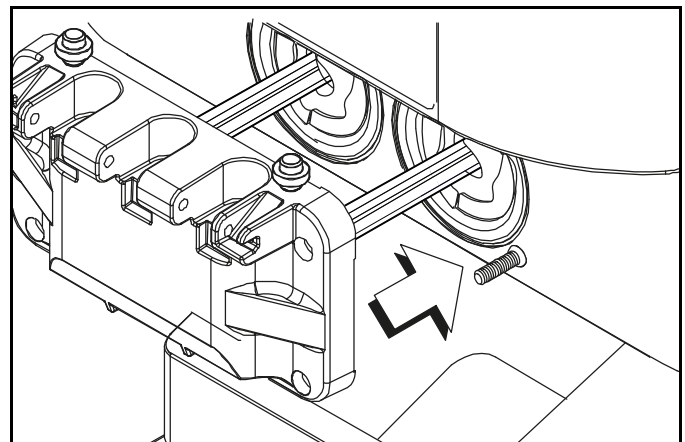

Figure 6-11
17. To install the freezer door, insert the baffle rods through the beaters in the freezing cylinders. (See Figure 6-11.)